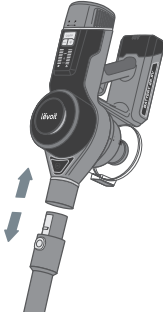

Figure 1.4
1. Press and hold the Vacuum Body Release Button and gently pull the vacuum body from the stick [Figure 1.4].